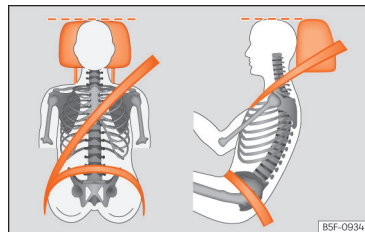

Fig. 18 Correct belt web and headrest positions
your head and under no circumstances below eye level. Keep the back of your neck as close as possible to the headrest »» Fig. 18.
- Adjust the seat lengthwise so that you can fully step on the pedals with your knees slightly bent and there is a distance between the knee area and the instrument panel of at least 10 cm (4 inches) »» Fig. 18.